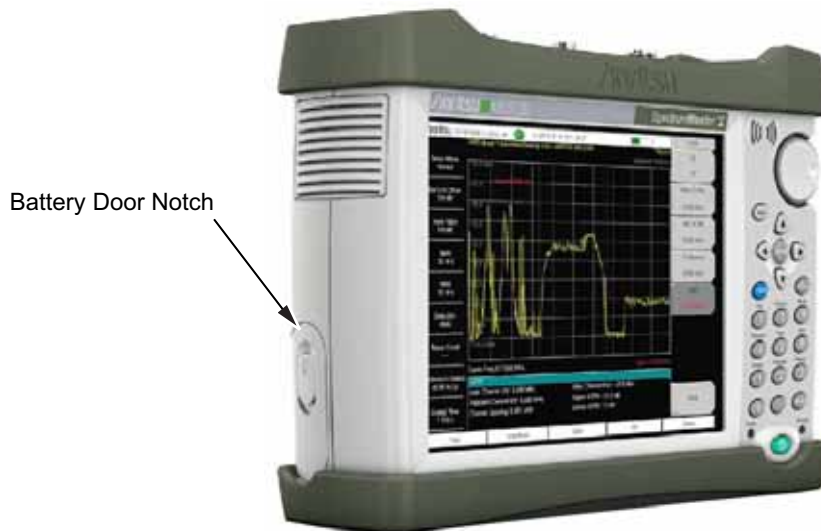

Figure 5-2. Battery Access Door Notch
2. Place a finger in the battery access door notch and push the door latch down towards the bottom of the instrument, as illustrated in Figure 5-2.